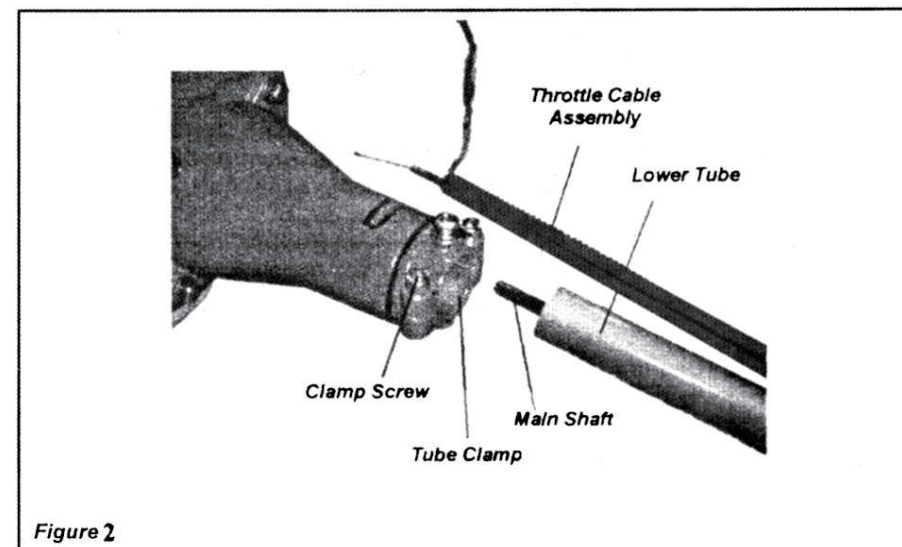

Figure 2
4. Push the lower tube towards the tube clamp and rotate it by hand to check that the mainshaft splines engage the powerhead, See Figure 2.